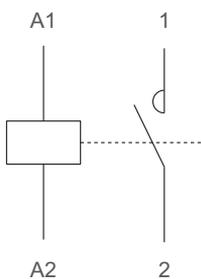

Fig1 16/10~25/10
4.6 Wiring diagram: see Fig1 to Fig5